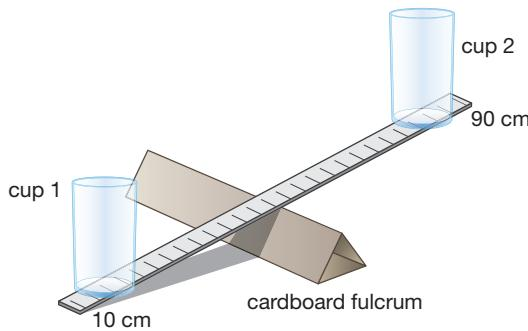

Figure 8.1.19
- 1 Use the scissors and ruler to score two lines so that the square is divided into thirds. Bend the cardboard to make a triangular prism to use as a fulcrum, as shown in Figure 8.1.19.